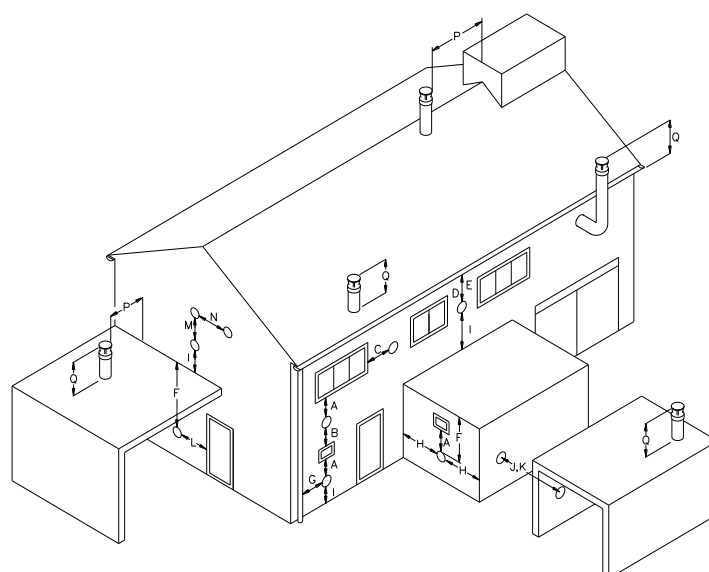

FIGURE 8.1: FLUE TERMINAL POSITIONS
The flue must terminate in a freely exposed position and be so situated as to prevent the products of combustion entering any opening in a building. For further information on terminal locations, please refer to **Figure 8.1**.
1. Determine the location of the flue terminal, taking into account minimum distances as detailed in **Figure 8.1, Table 8.1** and the relevant British Standards.
2. Determine the desired location for the flue terminal, taking into account minimum distances as detailed in **Figure 8.1, Table 8.1** and the relevant British Standards.